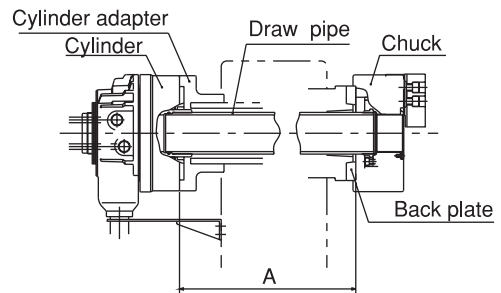

Fig.17
- Determine the dimension (dimension  $\phi E$  in Fig.17) of the back plate so that the plunger nut end surface contacts the back plate and stops when pulling the plunger nut. If the stroke is larger than the one specified, it may cause a chuck breakage or gripping failure.